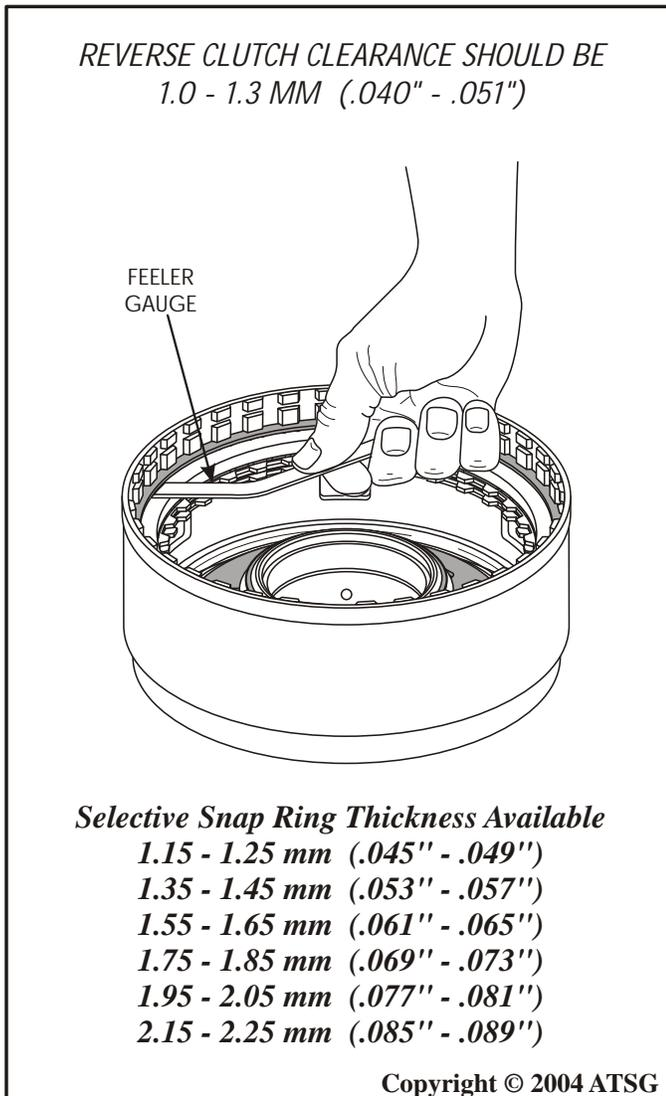

Figure 84
11. Check the reverse clutch pack clearance using a feeler gauge between the backing plate and the selective snap ring, as shown in Figure 84.
12. The reverse clutch pack clearance should be 1.0 to 1.3 mm (.040" to .051"), as shown in Figure 84.
13. Change the selective snap ring as necessary to obtain specified clearance and recheck clutch pack clearance (See Figure 84).